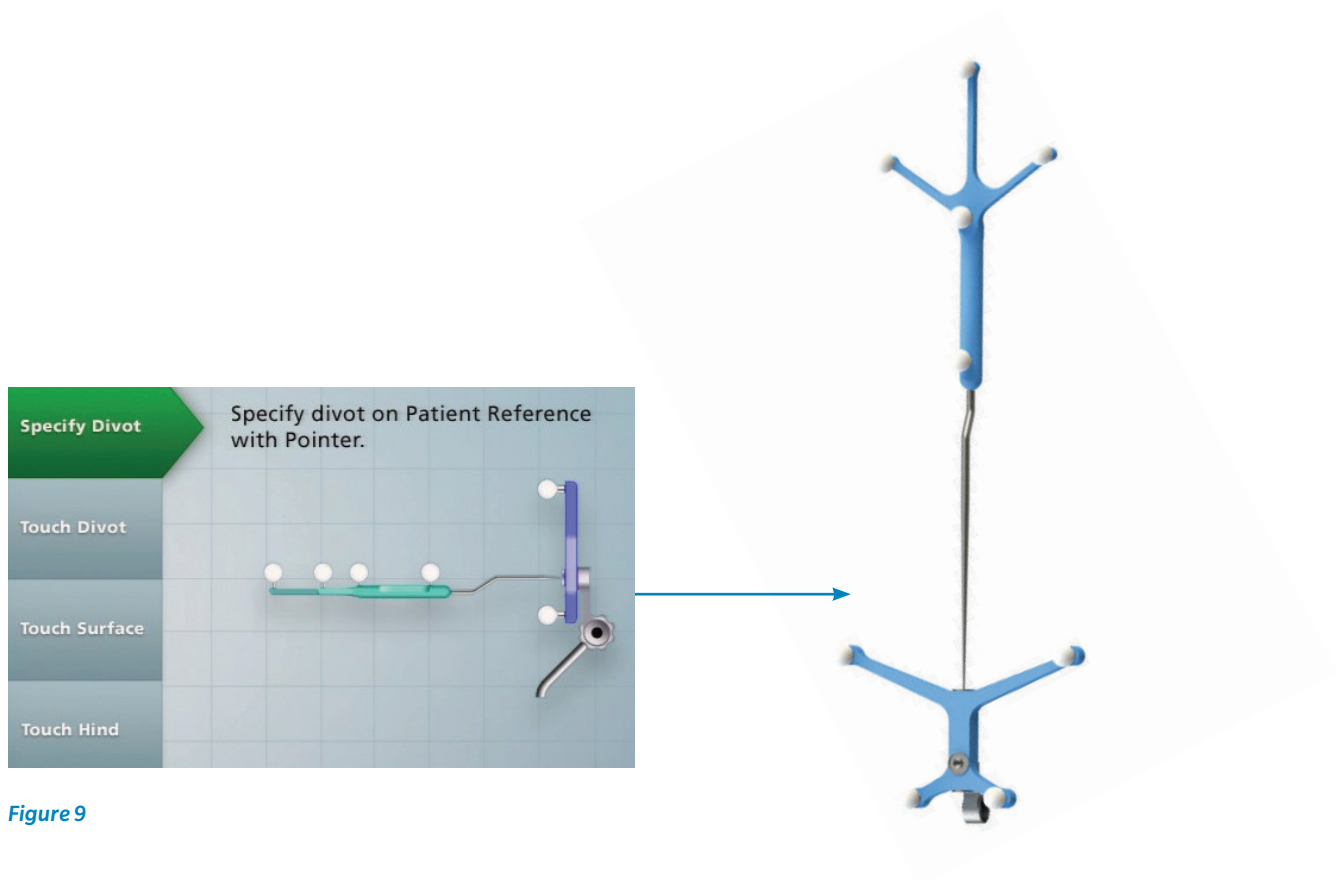

Figure 9
- **Step 1** - Specify divot on patient reference with pointer (Passive Planar) (Figure 9).